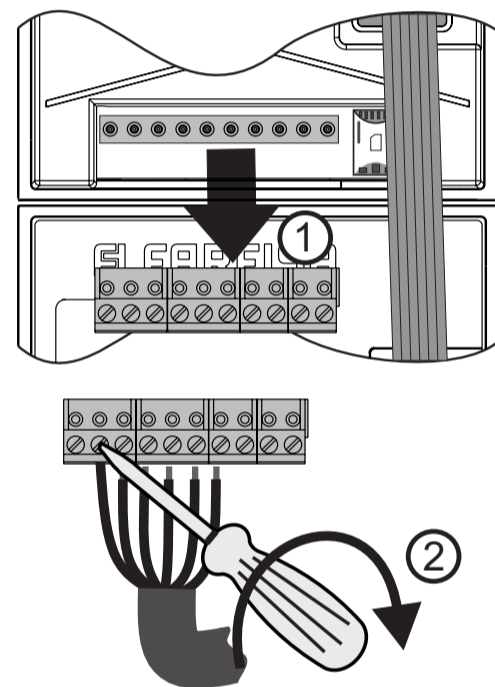

Fig.4
- Remove the terminal block from AB3G module and wire it to the installation (figure 4).